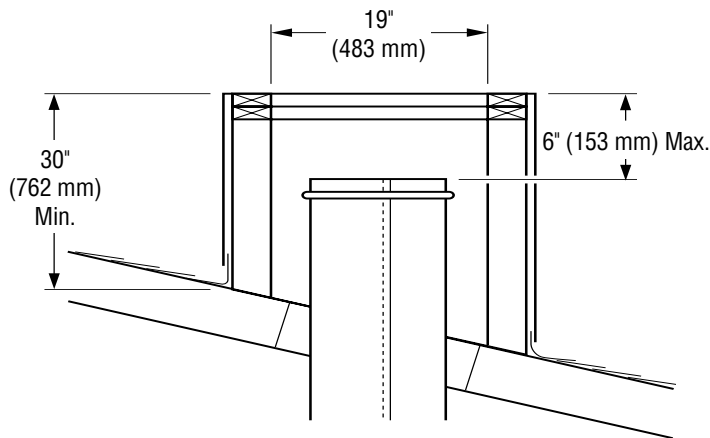

Figure 18 - Constructing Chase
1. Construct chase as illustrated in Figure 18. **Note:** The shortest vertical side must be at least 30" high and minimum inside dimension must be at least 19" as shown in Figure 18.
2. Add pipe sections to chimney system as outlined in fireplace installation instructions until last piece of chimney is a maximum of 6" below top of chase (see Figure 18).